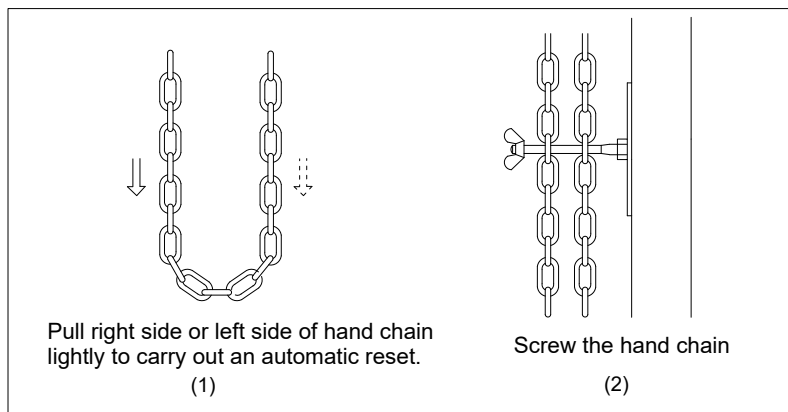

Fig.11
If the operator does not work electrically, pull one side of hand chain lightly until a reset is carried out see Fig.11 (1), the light turns off, now the electronic control unit can be used.
- It is recommended to fix the lower part of the chain as shown in Fig.11 (2), to avoid hindrance to people and equipment move.